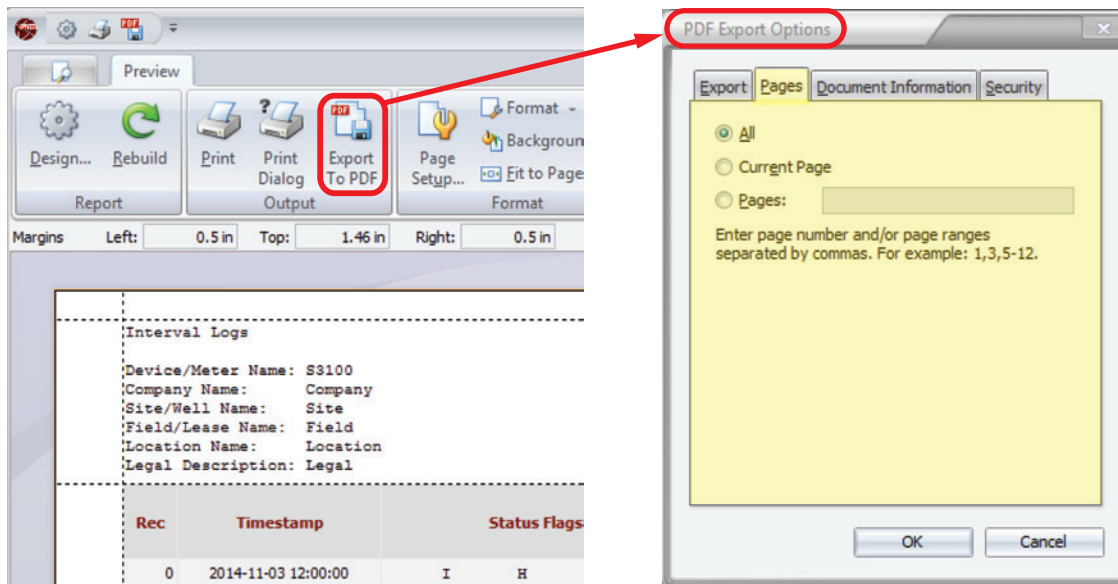

Figure 4.6—Export to PDF menu
1. Click the **Export to PDF** button in the top left corner of the *Print Preview* screen. A *PDF Export Options* dialog will appear, as shown in Figure 4.6.